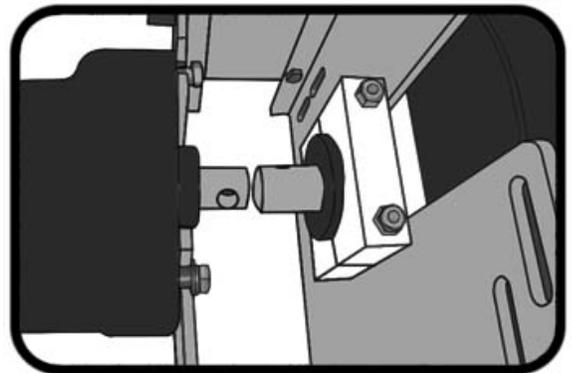

Fig. 11
**Step 11:** Reassemble the Rope Reel / End-Casting Assembly and place it into position inside the Infinity frame. Make sure the Motor Shaft and the Main Shaft are lined up. **(Fig. 11)** Secure the two together by placing the split motor collar over the shaft ends and tightly securing it.